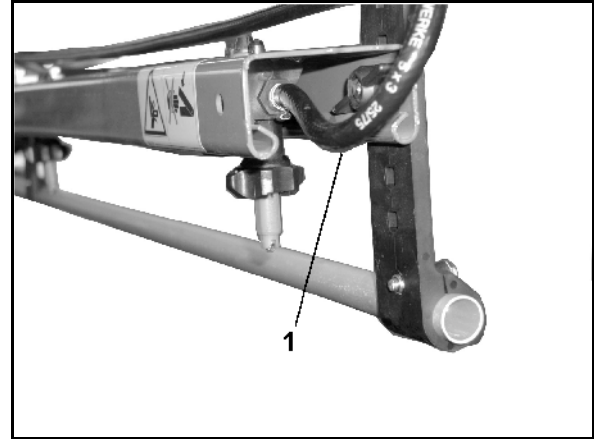

Fig. 85
- allows the permanent liquid circulation in the spray line when the pressure circulation system is switched on. For this every boom part width section is supplied with a flushing hose (Fig. 85/1).
- one hose for the flushing connection (Fig. 85/1) per boom part width section.